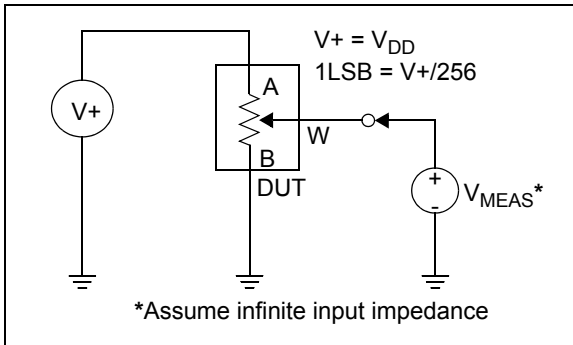

FIGURE 2-25: Potentiometer Divider Non-Linearity Error Test Circuit (DNL, INL).
- INL and DNL are measured at V_{DD} with the device configured in the voltage divider or potentiometer mode. $V_A = V_{DD}$ and $V_B = 0V$. DNL specification limits of ± 1 LSB max are specified monotonic operating conditions. See Figure 2-25 for test circuit.
- Resistor terminals A,B and W have no restrictions on polarity with respect to each other. Full-scale and zero-scale error were measured using Figure 2-25.